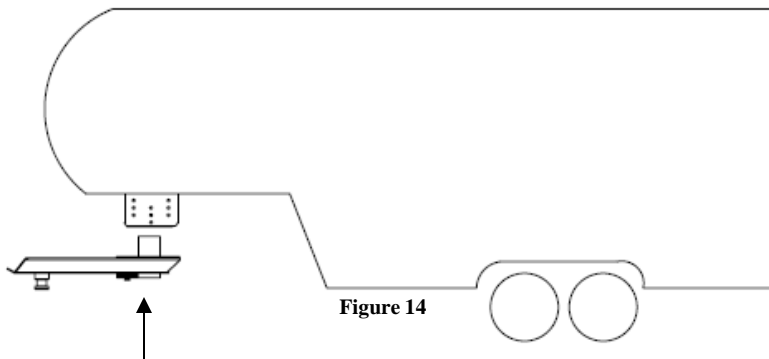
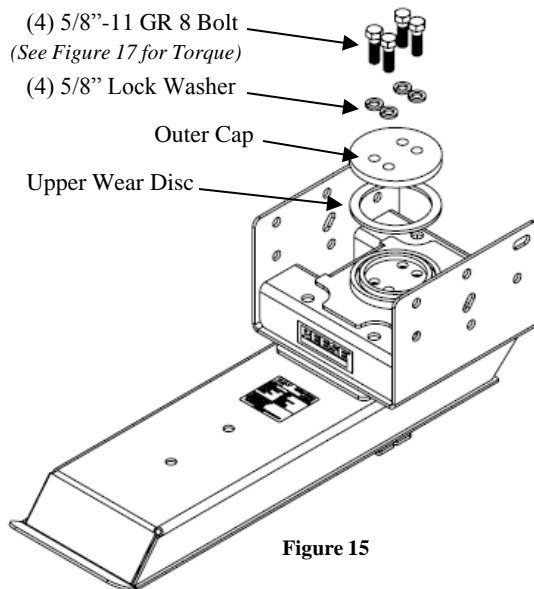

Figure 14
Figure 15
5. Raise the Sidewinder™ arm into position, figure 14. Align the pivot tube on the arm inside of the pivot bushing within the turret. It may be necessary to drive the pivot bushing down while the arm is raised, this may be done with a rubber mallet or a block of wood and a hammer. Support arm in place; install the upper wear disc and outer cap. Install (4) 5/8" Cap bolts & 5/8" Lock washers, do not fully tighten these bolts at this time (figure 15).